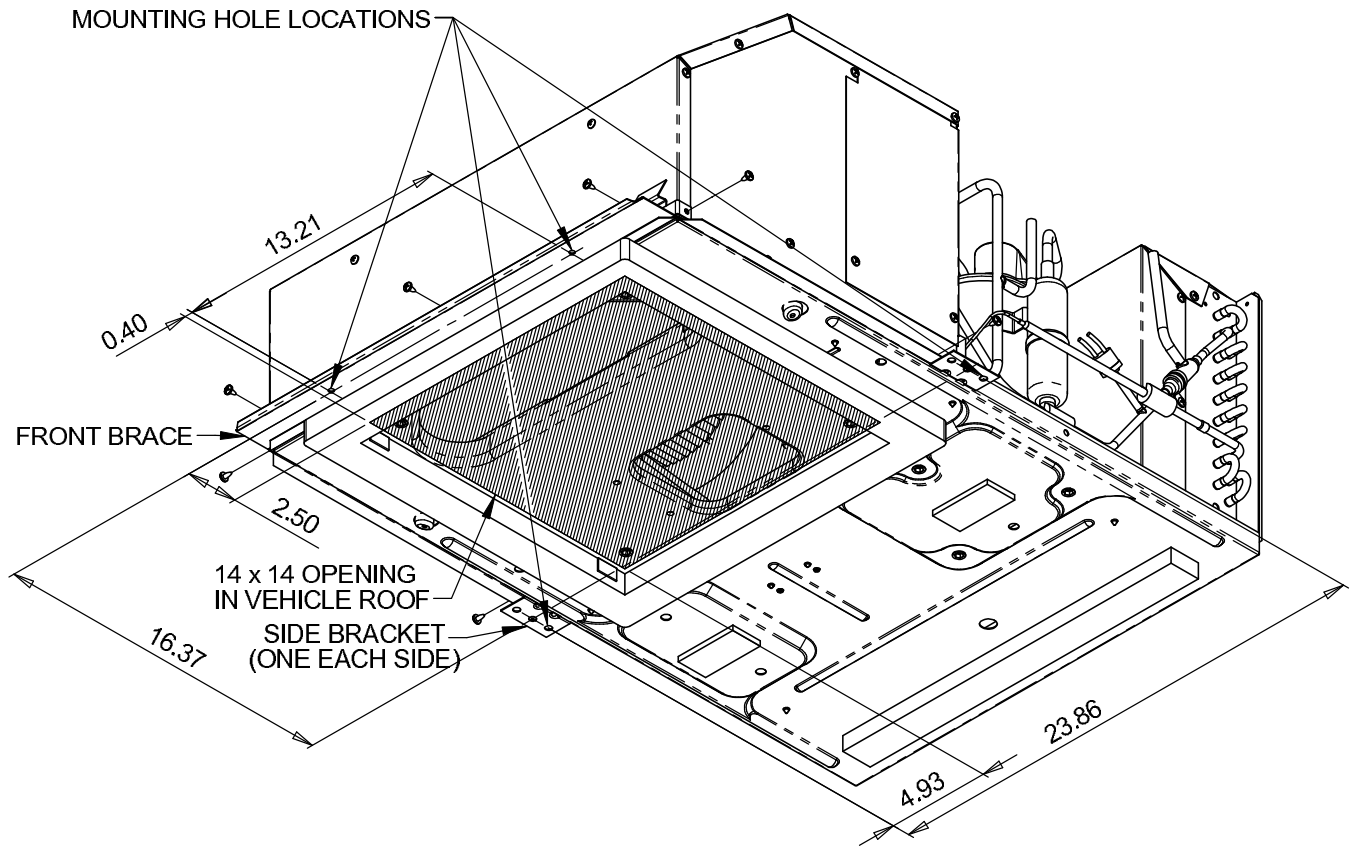

FIGURE 1
2. At the front of the rooftop unit, remove the 5 screws as shown in Figure 1 and re-use them to install the front brace provided in the kit. See Figure 1.
3. Remove the screw from the lower-rear corner of the evaporator housing as shown in Figure 1, slide the provided side bracket over the edge of the basepan and gently tap the bracket forward to align the side bracket hole with the hole in the basepan and re-install the screw. Repeat this step for the opposite side of the unit. See Figure 1.
4. See Figure 1 for locations where mounting screws will install in relation to the 14 x 14 inch opening in the vehicle roof. Even though the mounting screws are self-drilling, pilot holes may be pre-drilled in the roof at these locations.